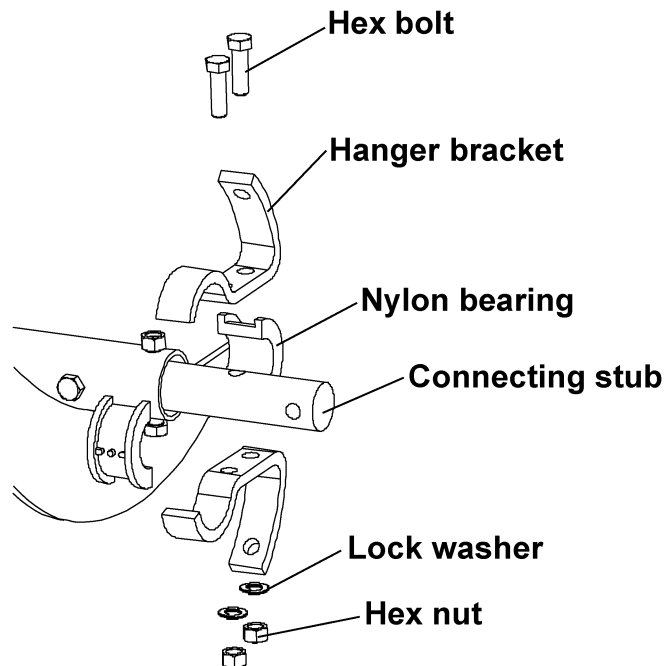

Figure 5E
- A. Bolt the nylon bearings and hanger brackets to the connecting stubs using hex bolts, lock washers and hex nuts as shown in Figure 5E.
**NOTE:** 16" Two (2) 1/2"-13 x 2-1/4" hex bolts